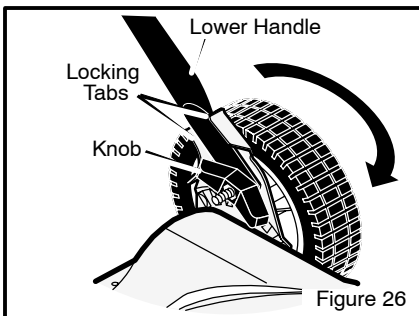

Figure 26
2. Loosen the knobs on the lower handle (Figure 26). Push in on the ends of the **lower handle**. Move the ends of the **lower handle** past the **locking tabs**.